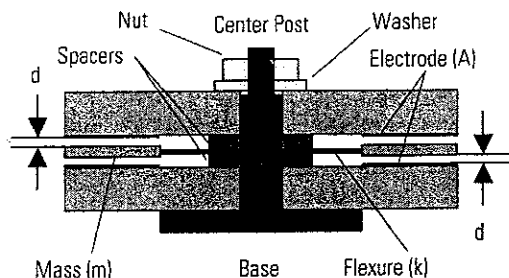
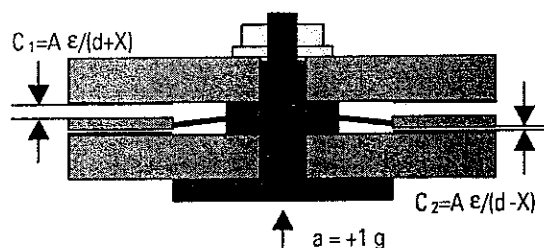
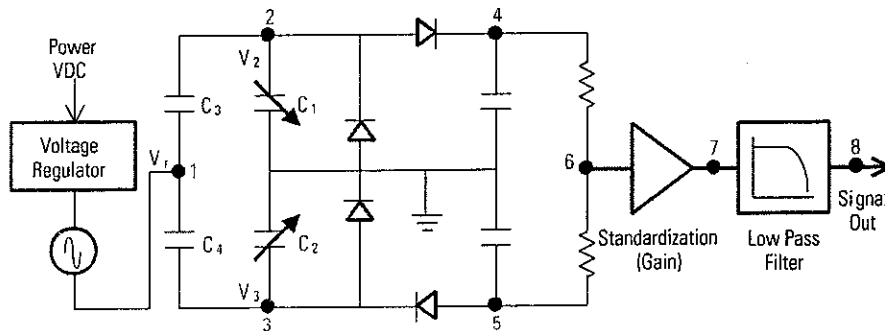
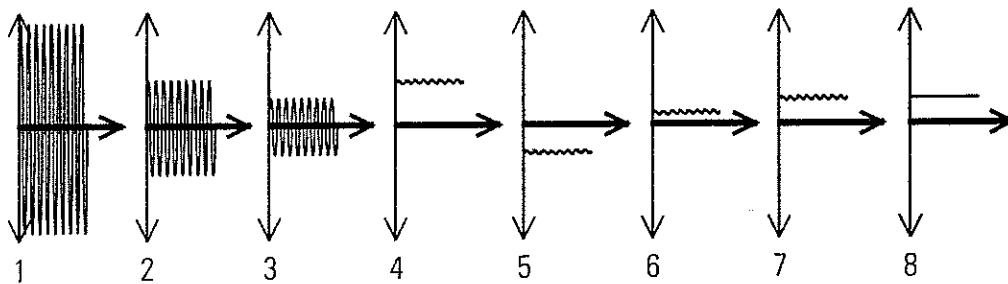

Figure 1a: Sensing Element in "0 g" Condition
Figure 1b: Sensing Element in "+1g" Condition
Figure 2a Circuit Schematic
Figure 2b: Response from Circuit from +1g Static Acceleration (x-axis = time and y-axis = voltage)
In Series 3800 Variable Capacitance Accelerometers, the sensing mechanism consists of a "washer-shaped," seismic mass (m) suspended by a proprietary flexure with stiffness (k). This assembly is sandwiched between two circular plates with an electrode area (A), whose distance (d) is closely controlled with precision chemically etched spacers. The resulting air-gap between each electrode and the sensing flexure forms a "mechanical capacitor". A cross-sectional drawing of this sensing element under a "0 g" condition is depicted in Figure 1a. Figure 1b depicts a "+1 g" condition as may be experienced by the sensor as it rests in the Earth's Gravitational Field.
As shown in Figure 1b, when the element is accelerated (a), an inertial force (F) is created on the mass (m) according to Newton's Second Law of Motion.
The built-in microelectronics contains a capacitive bridge circuit that converts this change in capacitance to a useful voltage signal. A simplified schematic of the circuit is shown in Figure 2a. The theoretical response from the +1g acceleration shown in Figure 1b is depicted by the time traces shown in Figure 2b. The numbers 1 through 8 on Figure 2b correspond to the signals at locations 1 through 8 on Figure 2a. For example, if the signal from location 2 were viewed on an oscilloscope, it would look like the signal shown in graph 2 of Figure 2b.
It would be sufficient to complete the circuit at this point, however, a couple additional features are included to enhance the performance of the sensor. First is the addition of a "standardization" amplifier. This is used to "trim" the range of the sensor to a convenient number such as 3g, 20g, 50g or 200g. For example, the amplifier in Figure 2a is used to gain the signal by a factor of 2. In other words, the voltage at Location 7 is twice as large as it is at Location 6. Second, a low-pass electrical filter is used to reduce unwanted signals from high frequency vibration and eliminate any residual affects of the oscillator frequency.